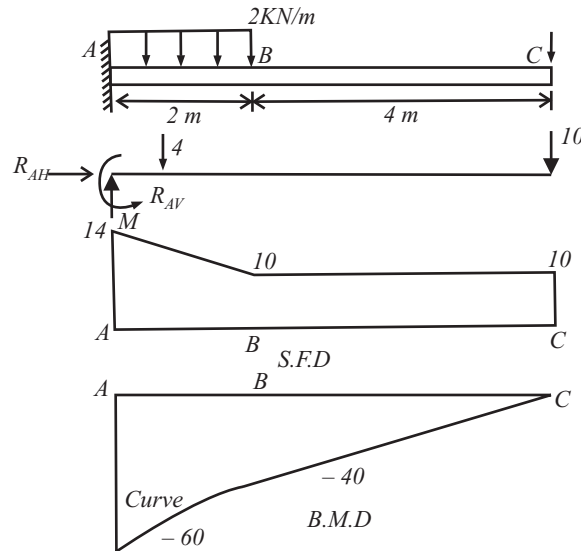

Fig 12.20
Q.16: A cantilever is shown in fig 12.20. Draw the BMD and SFD. What is the reaction at supports?